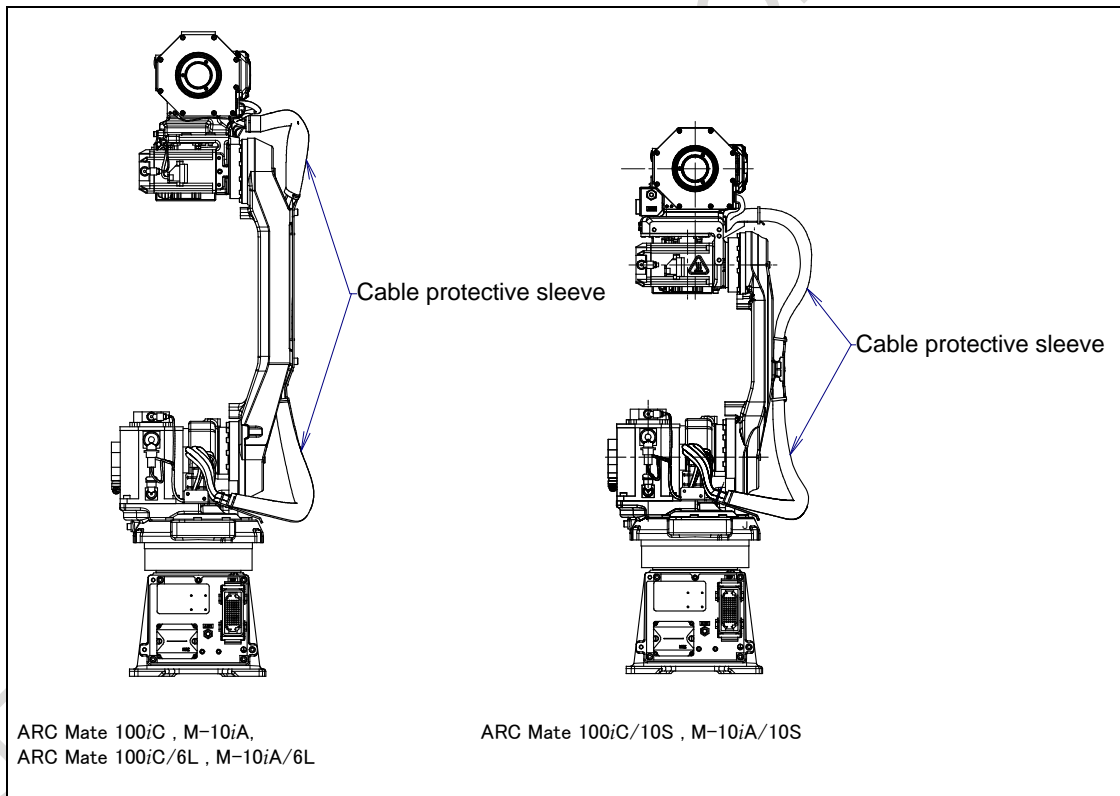

Fig. 8.3 (a) Replacing cable kit (J2/J3-axis cable protective sleeve)
- 3 Cut the cable tie for the J2-/J3-axis cable protective sleeve, and remove the cable protective sleeve from the cable kit. (Refer to Fig. 8.3 (a)).
- 4 Remove extra low bolt and button seal bolt, J6 motor cover and J5 motor cover. (Refer to Fig. 8.3 (b)). In case of M-10iA or M-10iA/6L or M-10iA/10S, replace gasket. (Remove adhesive tape completely.)